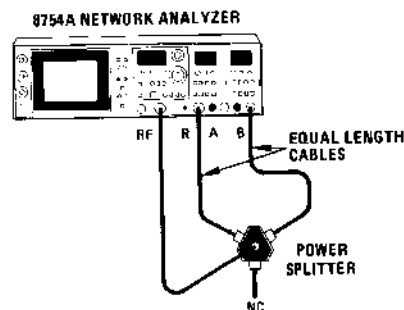

Figure 5-24. IF Filter Adjustment Test Setup
- a. Connect equipment as shown in Figure 5-24. Set 8754A controls as follows:
- f. Turn LINE switch on. Connect equipment as shown in Figure 5-24. Set 8754A controls as follows: